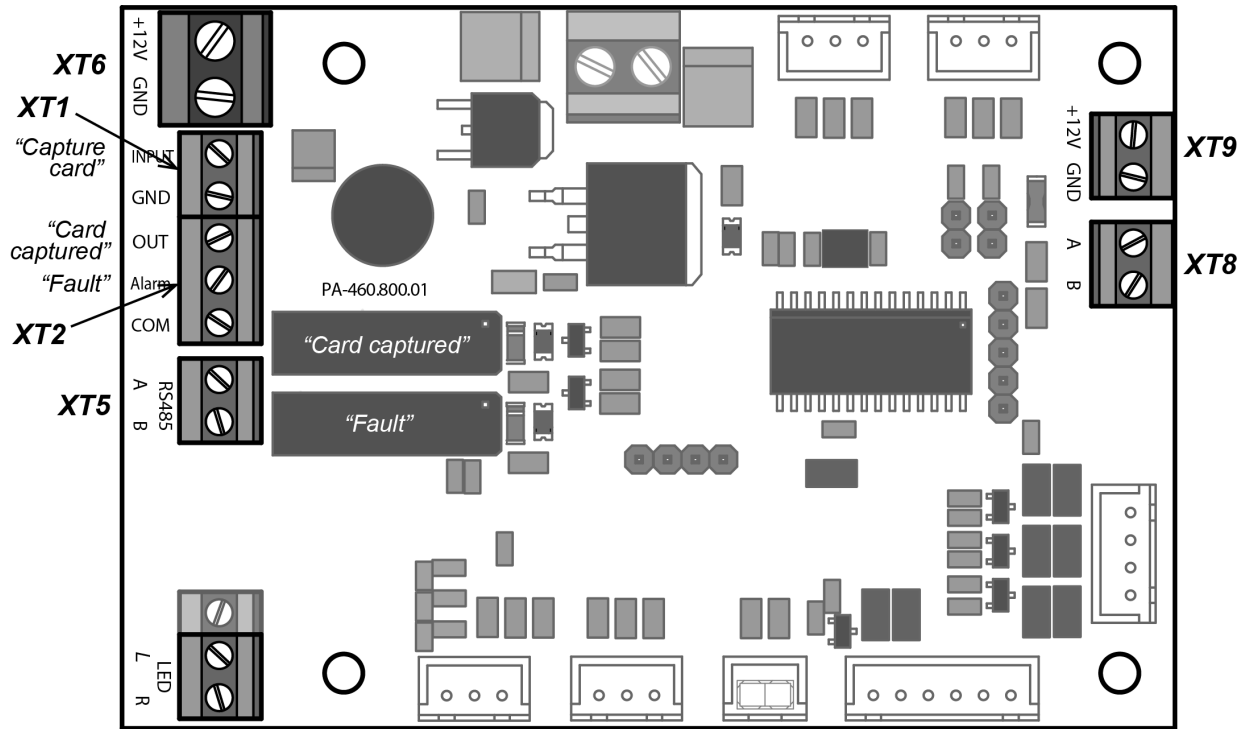

Figure 10. PA-450 control board of the card capture reader
3. If the presented card is a temporary visitor card and needs to be captured, the ACS controller gives a control signal to the *Capture card* control board input of the card capture reader (**INPUT XT1** contact, see Fig.10). The illumination of the card slot will start flashing with a frequency of 2 times per second, indicating that the card is to be withdrawn.
5. When a card falls into the card container, the second optical sensor records the fact of withdrawal of the card. In this case, the card capture reader closes the shutter, and the illumination of the card slot switches to continuous operation once again. Simultaneously, a control signal is sent from the *Card captured* output of the control board of the card capture reader (**OUT XT2** contact, Fig.10), which confirms passage permission for the ACS controller. After this signal, the ACS controller allows passage in the selected direction (gives the relevant signal to the turnstile control mechanism) and removes the *Capture card* signal after the passage through the turnstile. Upon removal of the *Capture card* signal, the card reader removes the *Card captured* signal.
6. The third optical sensor of the card capture reader tracks the fact of filling up the card container. When it is full, the card capture reader sends the *Fault* signal (**Alarm XT2** contact, Fig.10) to the ACS controller, and the illumination of the receiving slot of the card capture reader starts flashing once in 2 seconds, thereby warning that the container needs to be cleared of withdrawn cards. If the container is not emptied, then after capturing another 9 cards, the card capture reader will stop operating, and the illumination of the receiving slot will go out. The card capture reader will automatically resume its operation after the card container is emptied (the procedure for removal and installation of the card container is specified in Section 9.5). In addition, the *Fault* signal is sent to the ACS controller in case of malfunction of the card capture reader mechanism.
The overall view of the card capture reader's control board is shown in Fig. 10. The board includes the following terminal blocks: